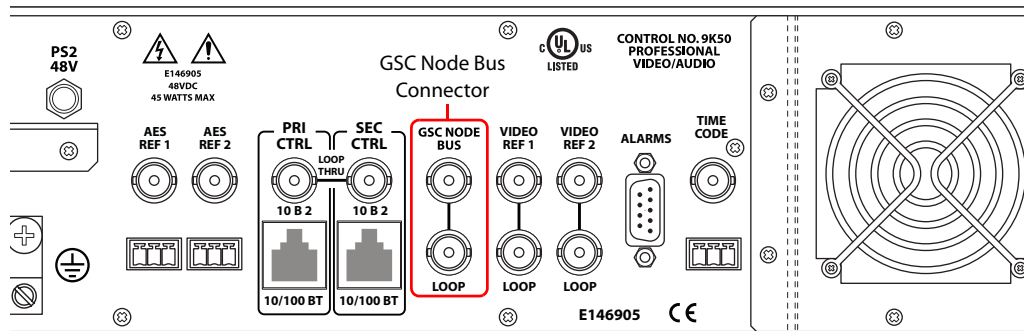

Figure 2-2. GSC Node Bus Control Connection (Rear View)
- 1 Locate the GSC Node Bus connections on the rear of the router, as shown in Figure 2-2. System controller connections are labeled 'GSC NODE BUS'.